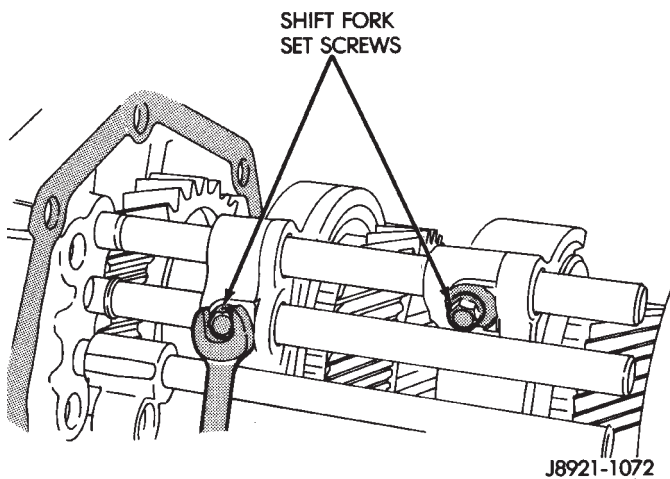

Fig. 70 Remove Shift Fork To Shift Rail Bolts
- (22) Remove bolts holding 1-2 and 3-4 shift forks to the shift rails (Fig. 70) and discard bolts.